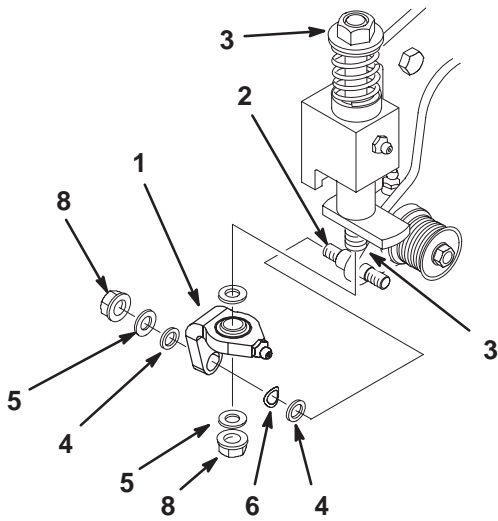

**Figure 7**
22. Insert a hardened washer onto each adjusting bolt in the front roller bracket assemblies (Fig. 7 & 8).
23. Pivot the groomer reel assembly upward until the pivot brackets slide onto each adjusting bolt (Fig. 7 & 8).
24. Secure each pivot bracket to an adjusting bolt with a flat washer and locknut (Fig. 7 & 8).
- A. Loosen the locknut on the bearing housing stud (Fig. 7) or the locknut on the pivot plate stud (Fig. 8).